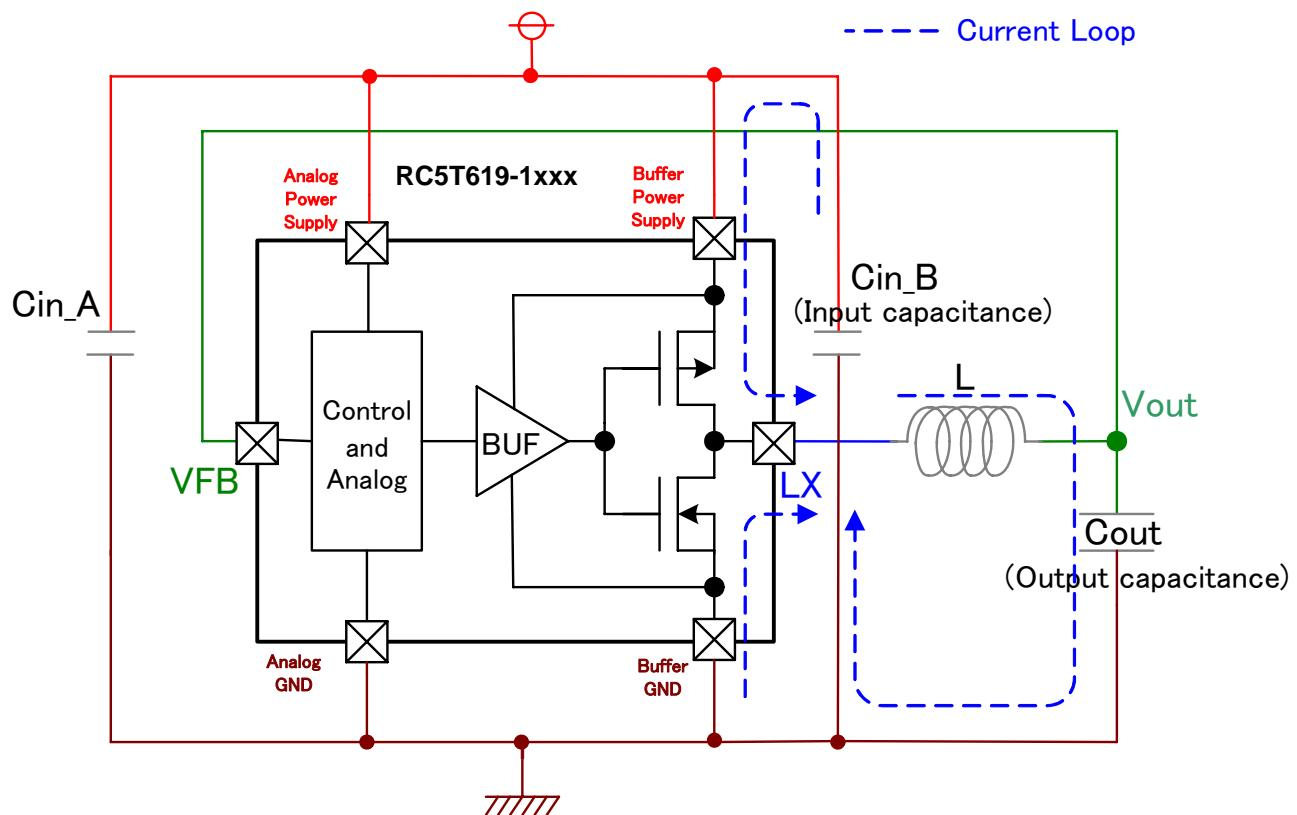
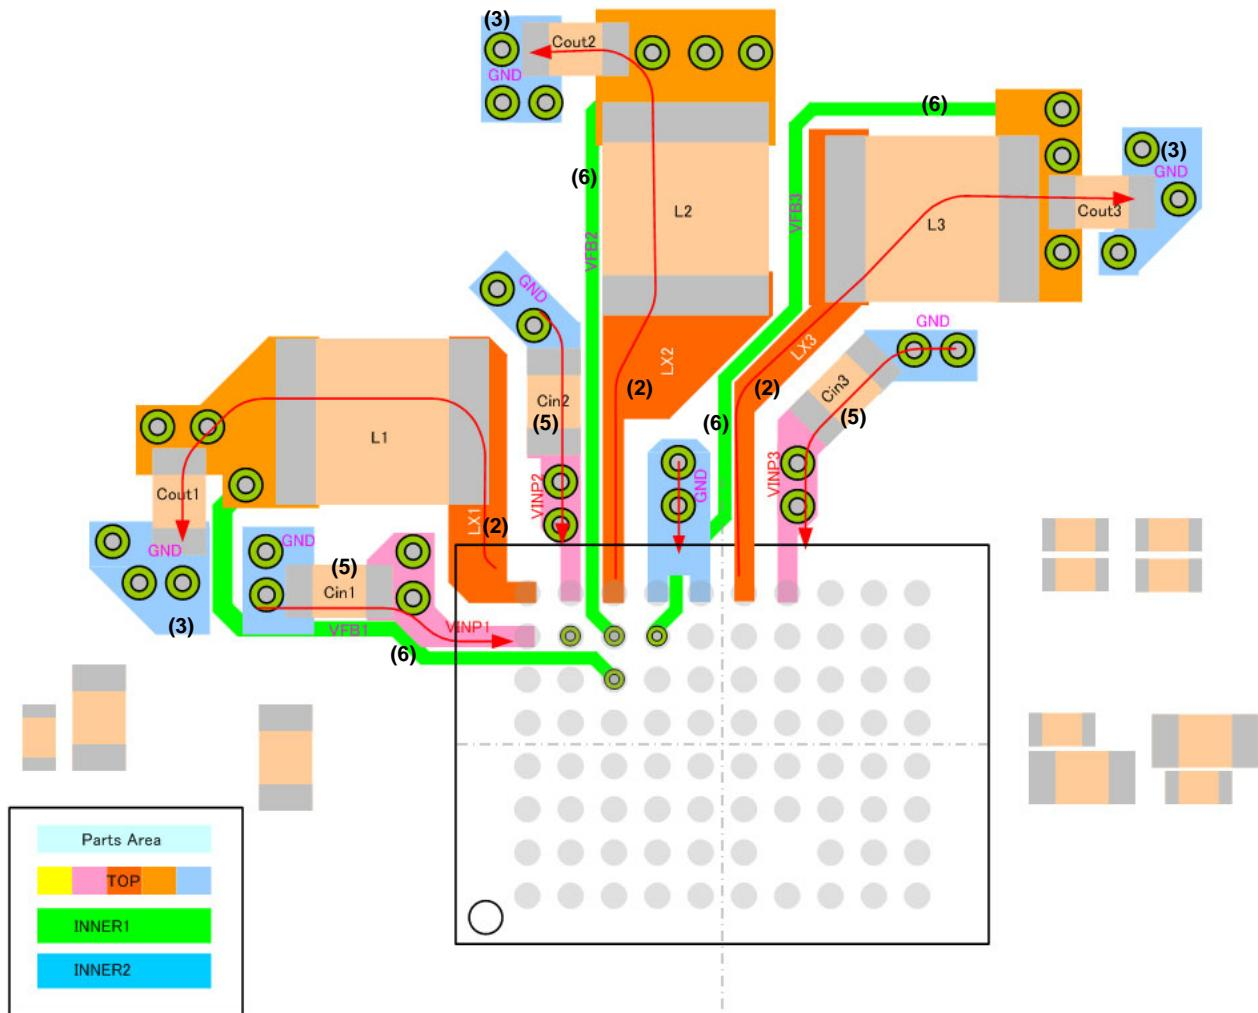

Fig. 1-1: Simplified Schematic for DCDC1, DCDC2, DCDC3, DCDC4 and DCDC5
Fig. 1-2: Example of DCDC Block Board Pattern (Top Layer)
- (1) Place the parts to minimize the switching current loop (Figure 1-1: blue line, Figure 1-2: red line).
- (2) Route the LX line as short and wide as possible between RC5T619-1xxx and an inductor, and prohibit adding other redundant lines on it.
- (3) Connect the ground line of "Cout" directly to the internal ground plane with multiple vias, in order to reduce impedance as small as possible. (Target: 50mΩ or less)
- (4) Pull out the output of DCDC from near not "L" but "Cout".
- (5) Place "Cin" as close as possible to RC5T619-1xxx.